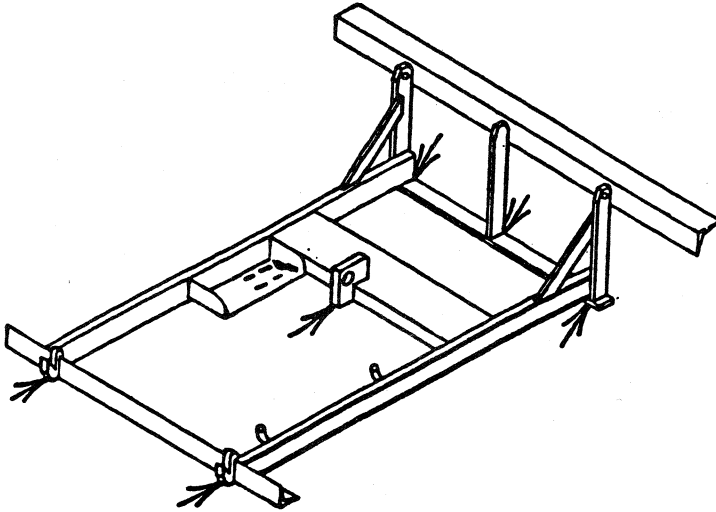

Figure 2
2. There are six (6) load bearing points related to the main frame. Three (3) are at the rear of frame under the three (3) support posts, two (2) are at the front of frame under the cross-traffic supports, and one (1) is under the cylinder mounting angle at the center of frame. (See Figure 2)